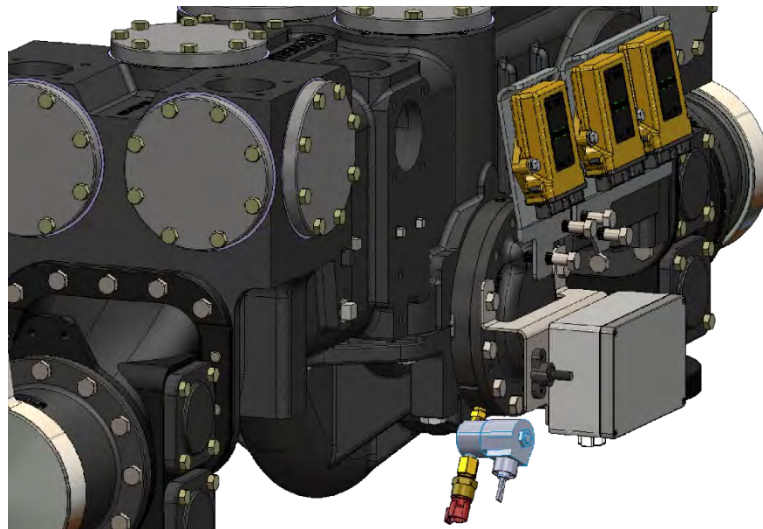

Figure 58. Removal Of The Module Mounting Brackets
- At top of Autolube assembly, remove both module mounting brackets. See Figure 58.